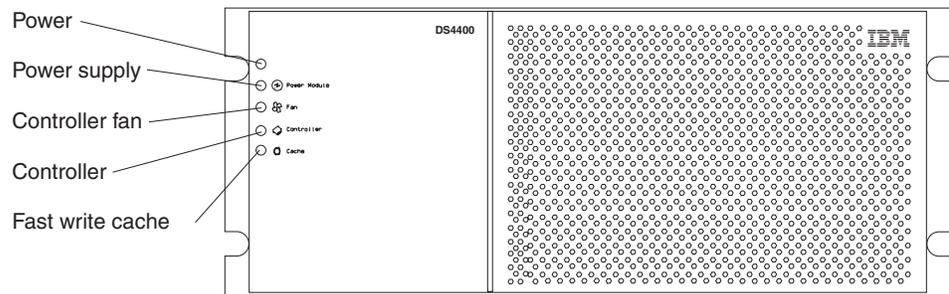

Figure 35. Indicator lights on the DS4400 Storage Server bezel
5. Using Figure 35 on page 44 as a guide, check the controller indicator lights.